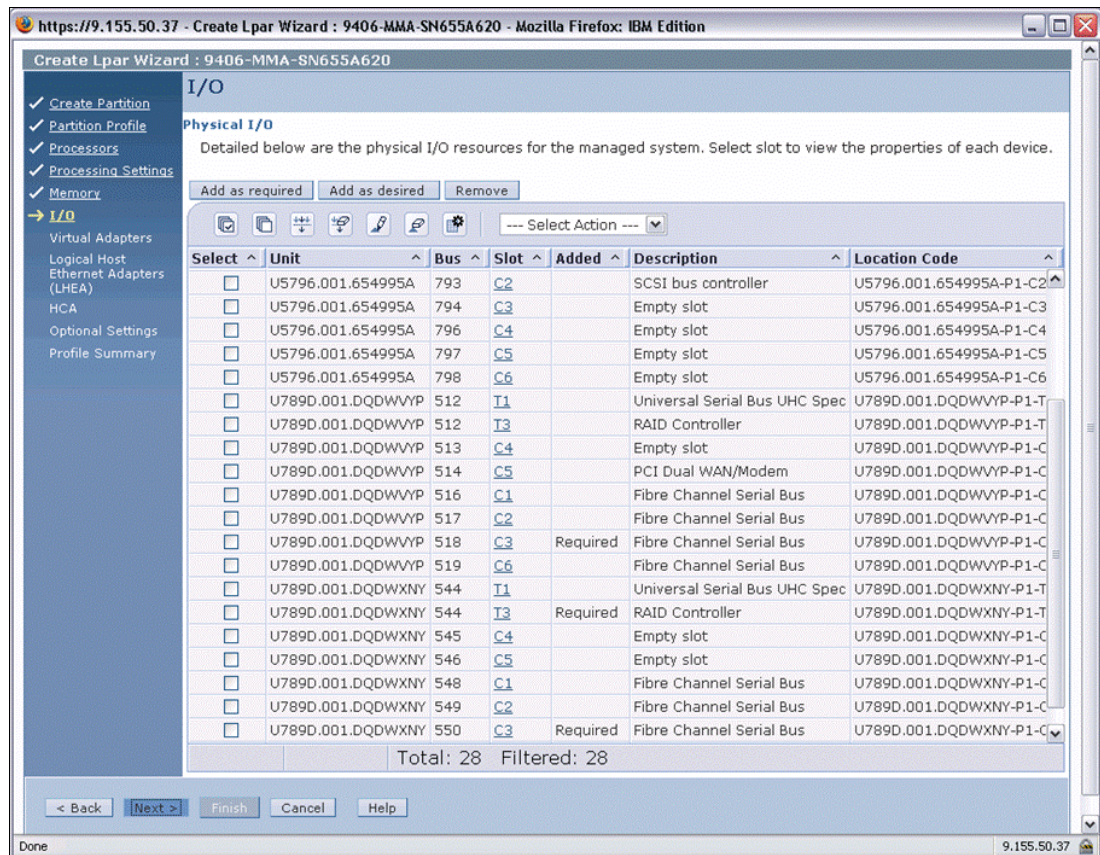

Figure 3-2 Adding the I/O devices to the VIOS partition
4. In the I/O panel (Figure 3-2), select the I/O devices to include in the new LPAR. In our example, we include the RAID controller to attach the internal SAS drive for the VIOS boot disk and DVD_RAM drive. We include the physical Fibre Channel (FC) adapters to connect to the XIV server. As shown in Figure 3-2, we add them as *Required*.